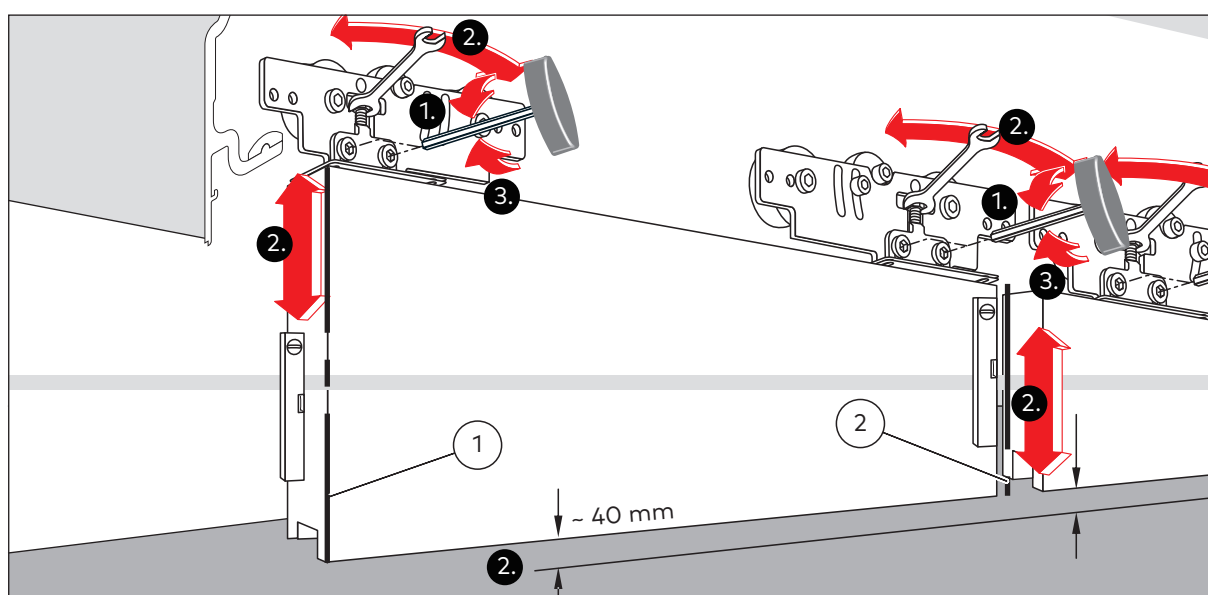

Fig. 87 Adjusting the height of the door leaves
1. Loosen the brackets at the main (Fig. 87/1) and secondary closing edge (Fig. 87/2).